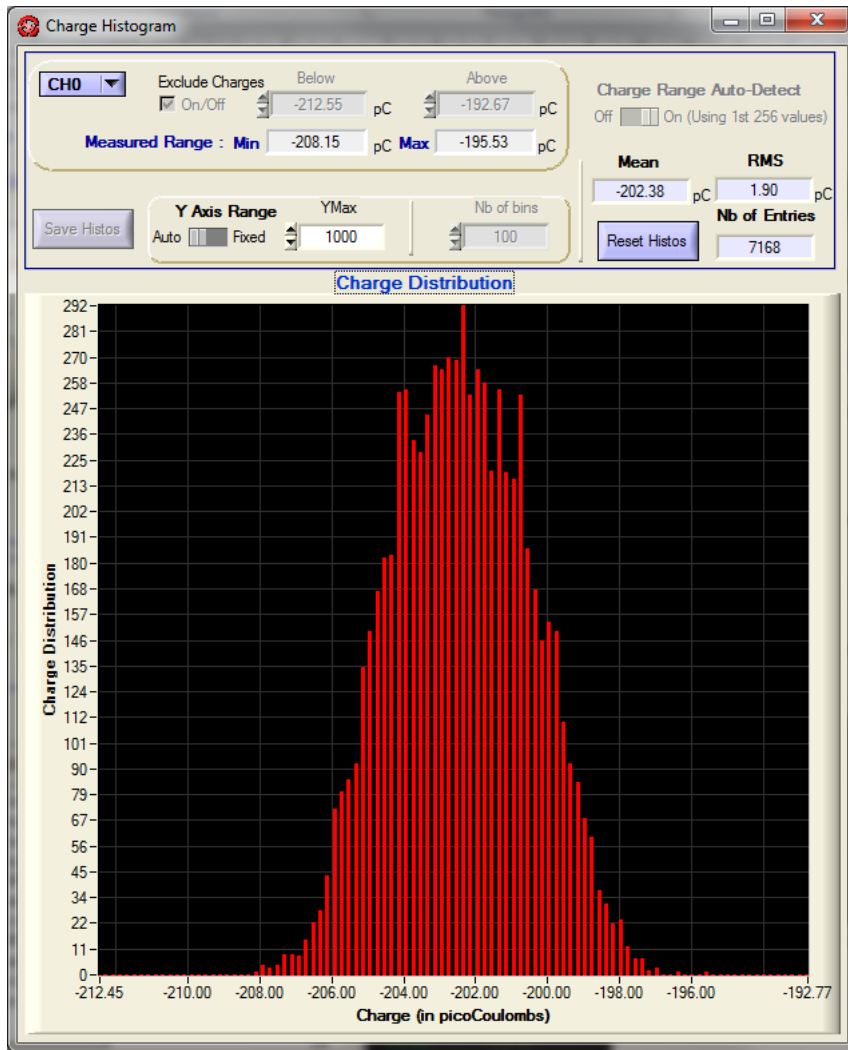

Fig. 5.19: Histogram Plot Dialog Box
- **Enable/Disable Show Histogram:** allows to enable the histogram plot. Setting the *Show Histogram* key ON, opens the *Charge Histogram* Dialog Box (see Fig. 5.19). The *Charge Histogram* Dialog Box allows the user to manage the charge histogram plot. It is possible to select the channel to plot, possibly configuring the charge region of interest to be plotted. An auto Y-axis scaling or a user configurable fixed range may be selected. The user can also configure the number of bins for the histogram plot and save the histograms to file or reset the histograms plot